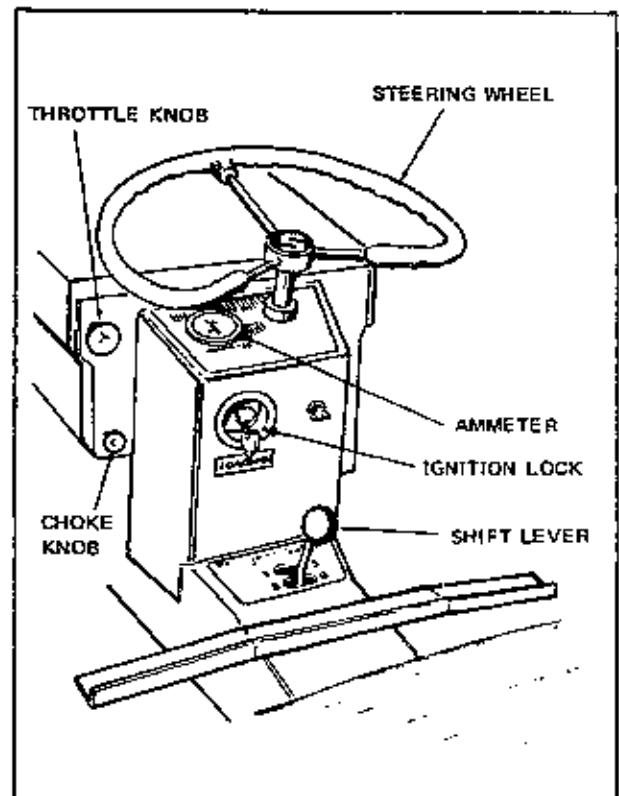
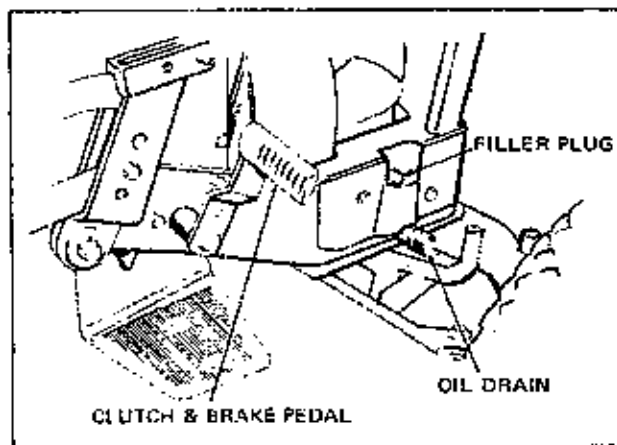

Figure 9
Figure 11
Service air cleaner and crankcase as recommended in Engine Service Manual. Be sure air cleaner is maintained in clean condition. Never use oil in crankcase for more than 25 hours of operation. See Figure 11. **CLEAN AIR AND CLEAN ENGINE OIL WILL GIVE LONG TROUBLE FREE OPERATION. DIRT WILL RUIN YOUR ENGINE IN A**
1. Place gear shift lever in **neutral** position. See Figure 9. (Be sure tractor is on **level ground** and will not roll away in neutral. Apply parking brake).
2. Pull choke knob out. See Figures 9 & 10.
3. Set throttle lever in **mid** position and turn ignition key **clockwise** to start engine and release. See Figure 9. As engine warms up, push choke knob in. Pull throttle knob out to desired position and turn to lock.
To place gear shift in desired gear range, depress the combination brake and clutch pedal located on right hand side of tractor. See Figure 11. When pedal is depressed, move shift lever to desired position (See Figure 9) and gradually release pedal until clutch is engaged. When shifting from one range to another, pause briefly in neutral before completing shift. Set throttle lever to obtain desired speed. See Figure 9.